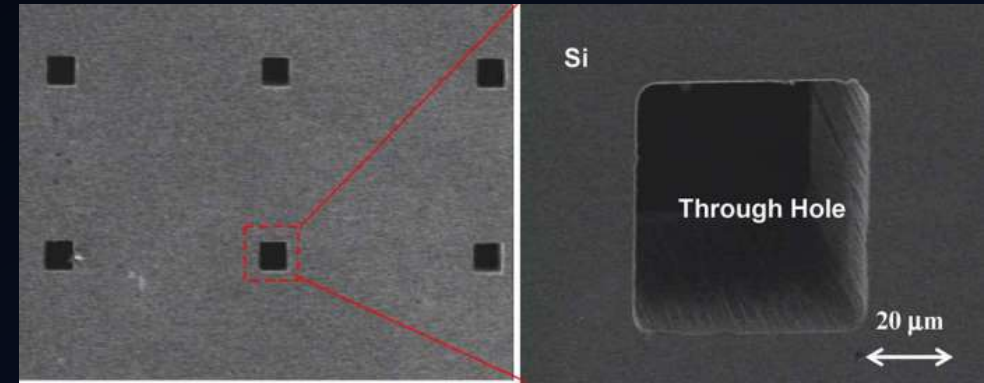

Figure 13.1 TSV hole created after the etching process ^[11]
- Figure 13.1 was scanned using an electron microscope (SEM) to capture this image. This image is showing an etched rectangular TSV cavity of $60 \times 60 \mu\text{m}^2$.